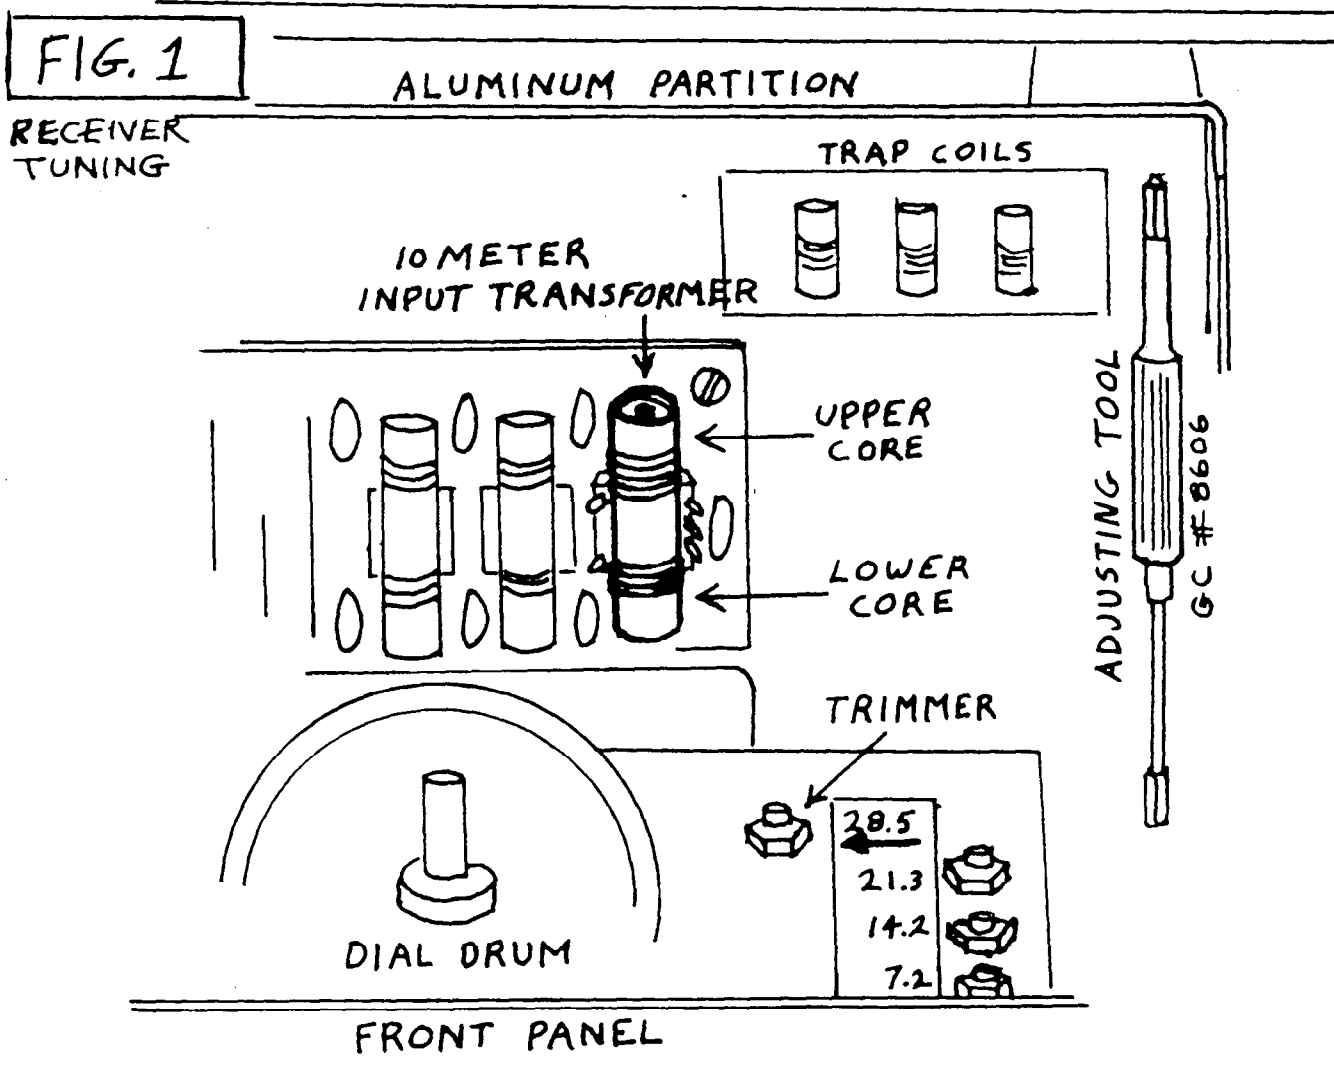

FIG. 2
(A) Early 210X: The 10 meter trimmers are located at the bottom of the tuning board. (See Fig. 2) A right angle adaptor for the PC-100 (or PC-120 noise blanker model) plug in card will be required in order to reach these trimmers. Remove the card, and plug it back in using the adaptor, as illustrated. Be sure the relay is facing up.
Move the function switch to "CW" mode, and advance the Mic. Gain control to about 12 o'clock. Then screw the 10 meter trimmers (Fig. 2 or 3), clockwise until the ammeter on the transceiver panel moves upward. It will normally be idling at about 1/4 amp. until there is transmit power. If turning the trimmers has produced a reading of more than 6 or 7 amps., quickly turn the Mic. Gain control down for a reading of about 3 amps. Then, adjust both trimmers again for maximum reading. If it goes over 6 or 7 amps. again, quickly turn down the Mic. Gain for a reading of about 3 amps.